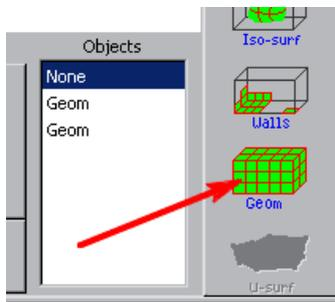
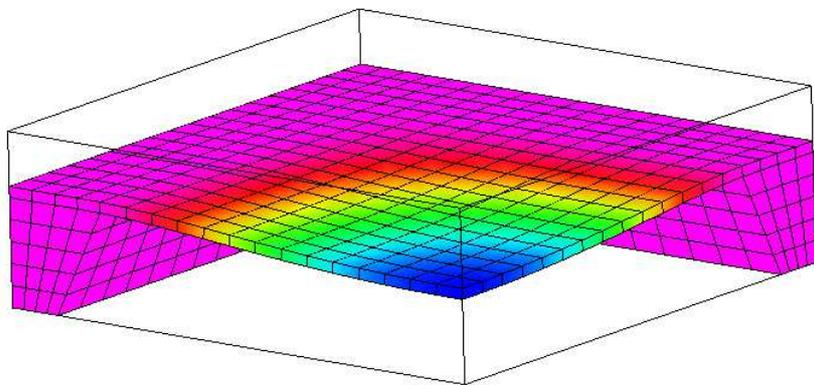

Fig.70. Creating new Geom object
Fig.71. The view of the model – outlines created
- In order to retrieve lost outlines of the model create another object of the *Geom* type by clicking the appropriate icon in the vertical toolbar (see Fig. 70). Now a new object is displayed at the end of the list in the *Objects* window. The model itself is depicted in Fig. 71.